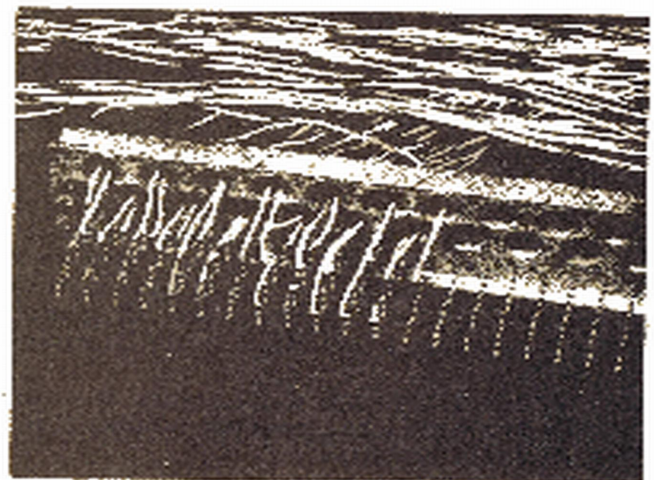

Figure 7. Straight-Across Jumpers Correctly Run; Underneath Jumpers and Above Framework on the Horizontal Side.
5.07 Run short horizontal jumpers (within three verticals to right or to left of point of termination) underneath all other jumpers, but on top of the ironwork, of their respective levels (see Figure 7). In most instances, they will then cause the least possible interference with other jumpers